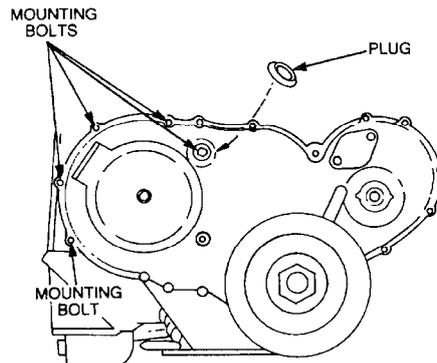

Figure 14 Removing the Injection Pump
- i. Remove the plug from the timing cover (Figure 14) and remove the bolts (one is accessed from the rear of the timing case below the injection pump) securing the injection pump to the timing case.